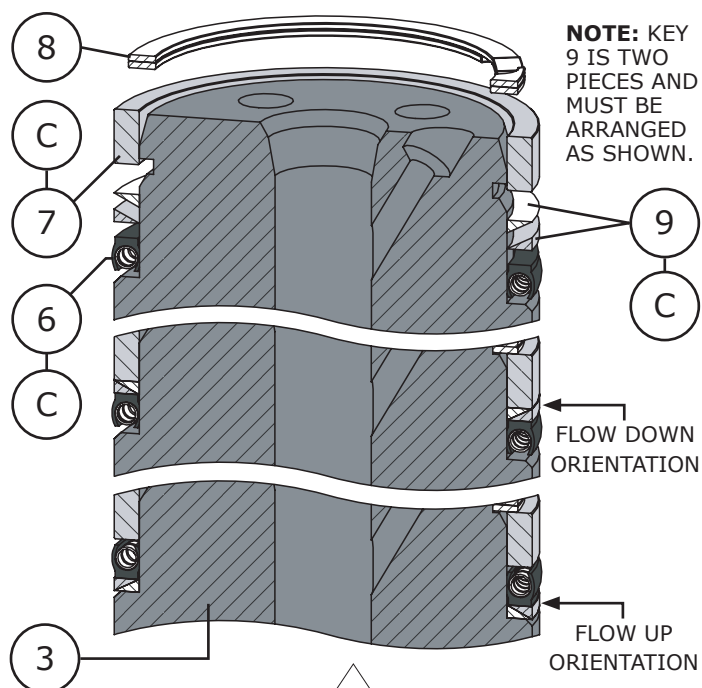

Figure 17 Plug Seal Assembly with Anti-Extrusion Ring
- 3 If required, apply white petroleum grease (Key C) to the anti-extrusion ring (Key 9) and install the anti-extrusion ring on to the valve plug as shown in Figure 17. **NOTE:** Anti-extrusion rings are only used for valve assemblies rated to exceed 450°F (232°C).